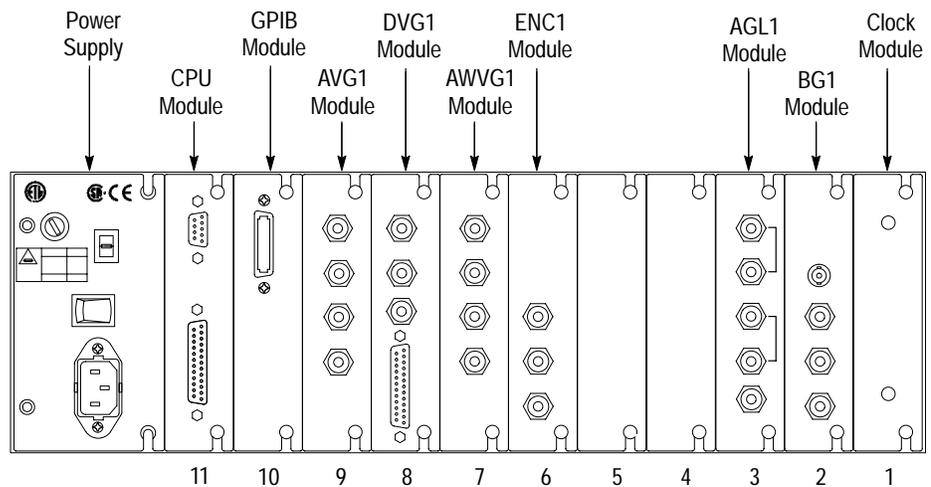

Figure 2–1: TG 2000 Platform mainframe rear panel, showing slot numbering
3. Select the slot you will use to install the module. Table 2–1 lists the slot restrictions. Figure 2–1 shows a sample configuration with slot numbers.